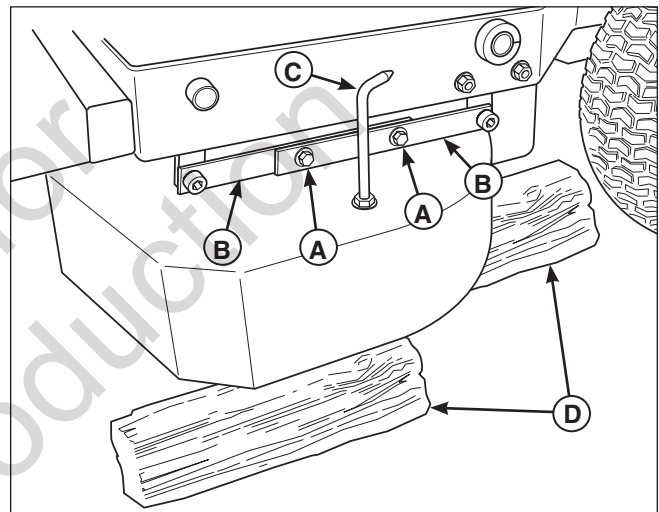

Figure 15. Deck Leveling Linkages
5. Loosen the bolts (A, Figure 15) that secure the connecting links (B) together. This will remove any tension from the mounting linkages and pivots.
7. Verify that the deck height indicator (C) is aligned with the 4" mark. Adjust the indicator position if necessary.
7. Verify that the deck height indicator (C) is aligned with the 2" mark. Adjust the indicator position if necessary.